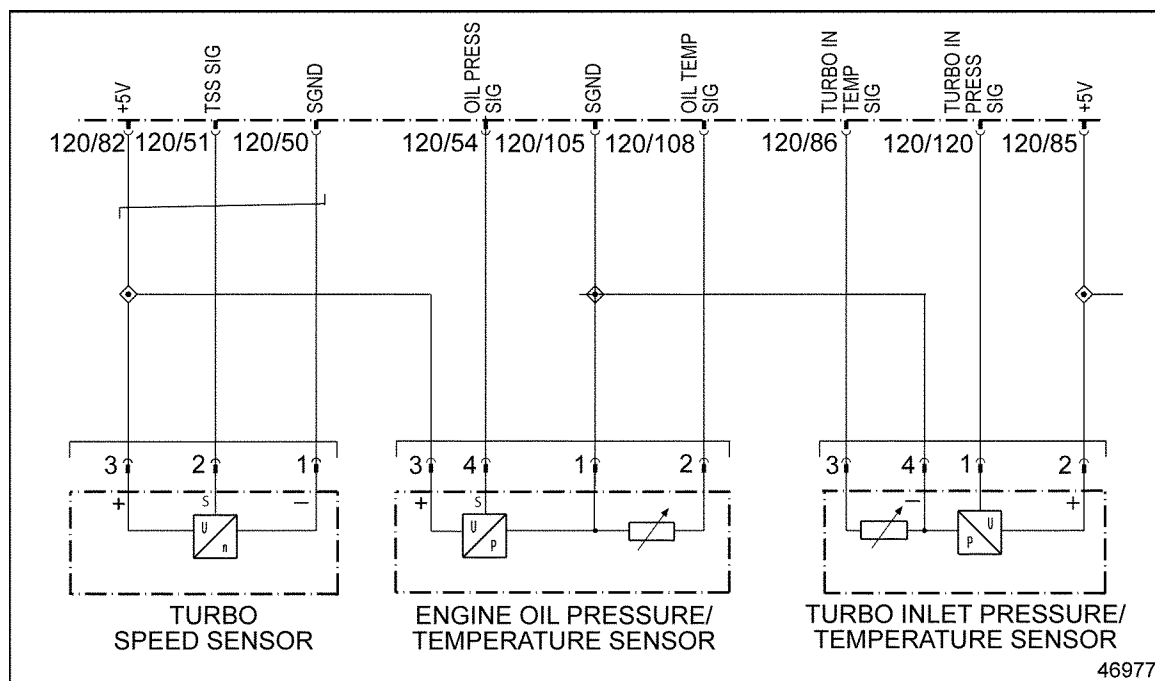

Figure 14-2 Engine Oil Pressure/Temp Sensor Wiring
- [b] If the voltage is less than 2.75 volts, repair the open circuit between pin 108 of the 120-pin MCM connector and pin 2 of the Engine Oil Pressure/Temp Sensor. See Figure 14-2. Refer to section 14.2.1.1.